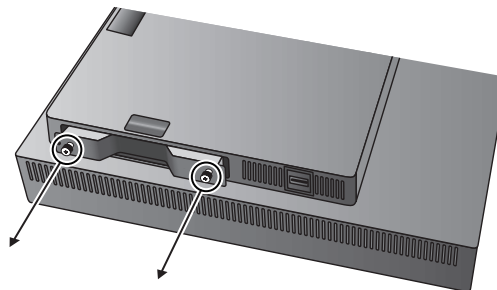

Figure G.3
4. Pull out the DisplayPort interface unit using the thumbscrews (**Figure G.3**).